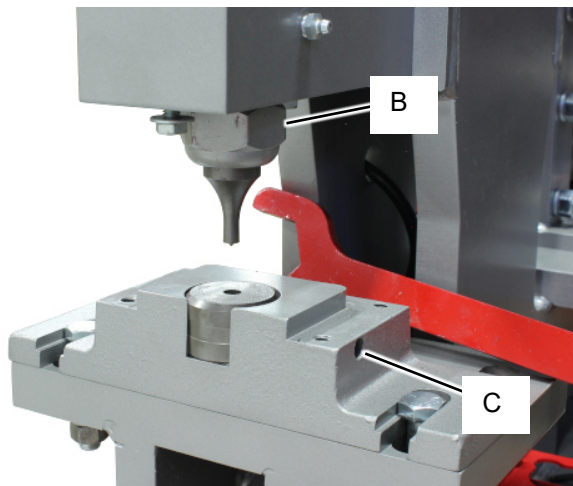
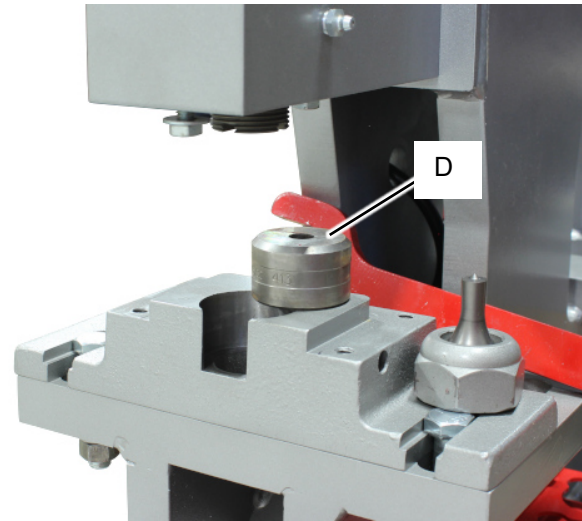
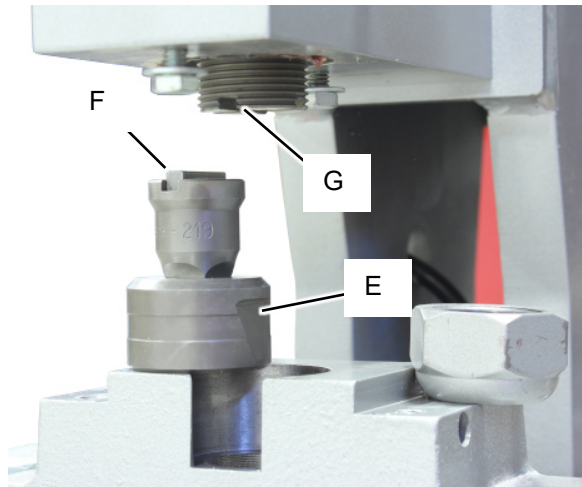

Figure 5
Figure 6
Figure 7
4. Using the punch nut wrench, loosen the punch retaining nut (Fig. 5, B). Continue to unscrew the nut from the punch ram and remove the punch from the nut.
5. Using a 3/16" hex key, loosen the set screw (Fig. 5, C) securing the die to the table.
7. Insert the die into the table with the flat surface (Fig. 6, D) up and firmly tighten the set screw (Fig. 5, C). Do not overtighten the set screw.
11. Install the die into the table with the table cavity with the flat surface (Fig. 6, D) up and the flat side (Fig. 7, E) toward the set screw. Lightly snug the set screw to cause the die to rotate into alignment.
13. Place the square key (Fig. 7, F) into the groove on the top of the punch and engage the punch and key assembly into the groove on the punch ram (Fig. 7, G).